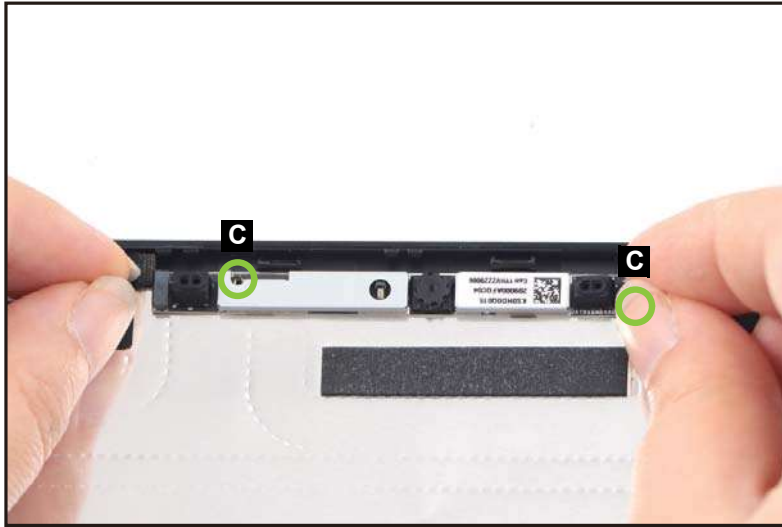

Figure 3-64. Camera Module Removal
3. Release the camera module from the guide pins (C) (Figure 3-64). Then remove the camera module.